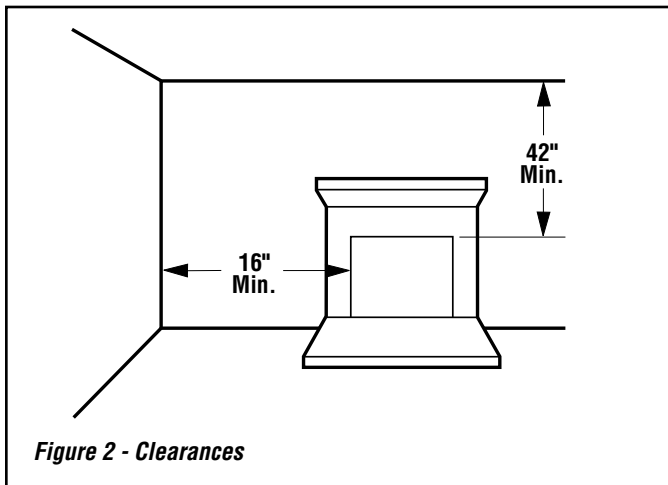

Figure 2 - Clearances
Note: Illustrations shown in this manual reflect "typical" installations with nominal dimensions and are for reference only. Actual installations may vary due to individual design preferences. However, always maintain minimum clearances to combustible materials and do not violate any specific installation requirements. Refer to **Figures 2 through 8** for clearances.
Ensure the minimum clearances shown in **Figures 2 through 8** are maintained. Left and right clearances are determined when facing the front of the appliance.
Step 1. Sidewall Clearances: The sides of the fireplace opening must be at least 16" from any combustible side wall (**Figure 2**).
Step 2. Ceiling Clearance: The ceiling must be at least 42" from the top of the appliance opening (*Figure 2*).